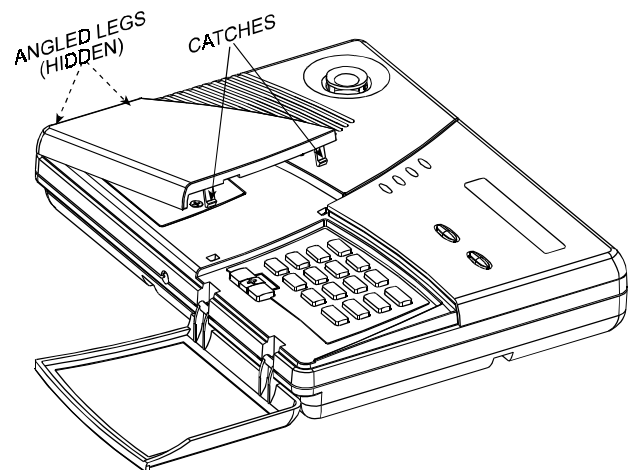

Figure 2. Removing the Battery Area Cover
A fully equipped alarm system based on the PowerMax consists of the units shown in Figure 2 of the user's guide.
**C.** Swing the cover up as shown in Figure 2, then pull free the angled legs at the left and put the cover away. The inner lid will now be in full view (see Figure 3).